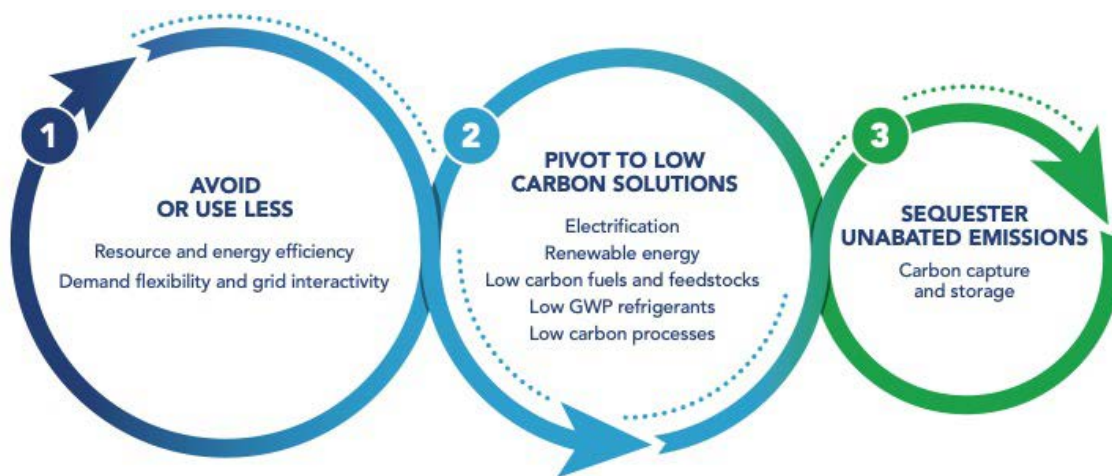

Figure 1. Reaching low carbon goals
**Develop an action plan.** You can begin reducing CO2e emissions by developing building-level action plans that identify and reduce operational CO2e emissions from both on-site combustion and electricity consumption (Figure 1). The goal is to achieve low or no carbon status. It does not happen overnight, and often requires making a series of strategic decisions about how the building is operated and maintained. These action plans may include pathways to electrification to reduce or eliminate on-site fossil energy use as well as strategies to reduce embodied carbon.6